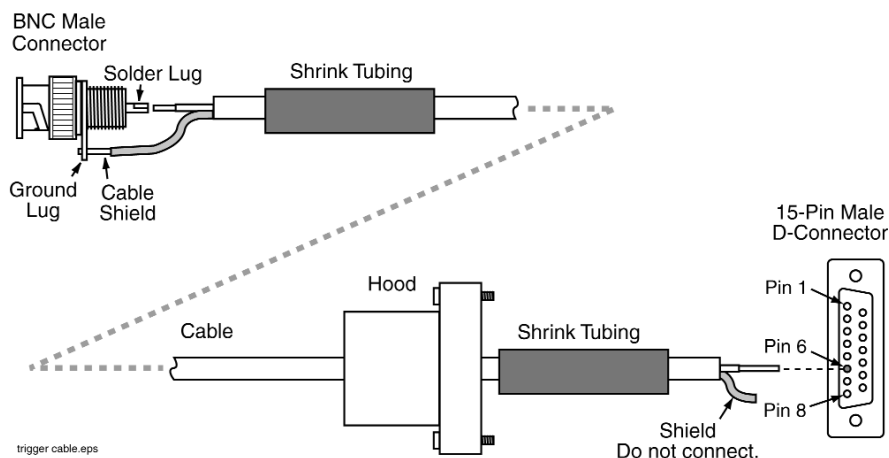

Figure 18. Trigger Cable Assembling
1. Solder the cable's center-conductor to pin 6 of the D-connector (see Figure 18).